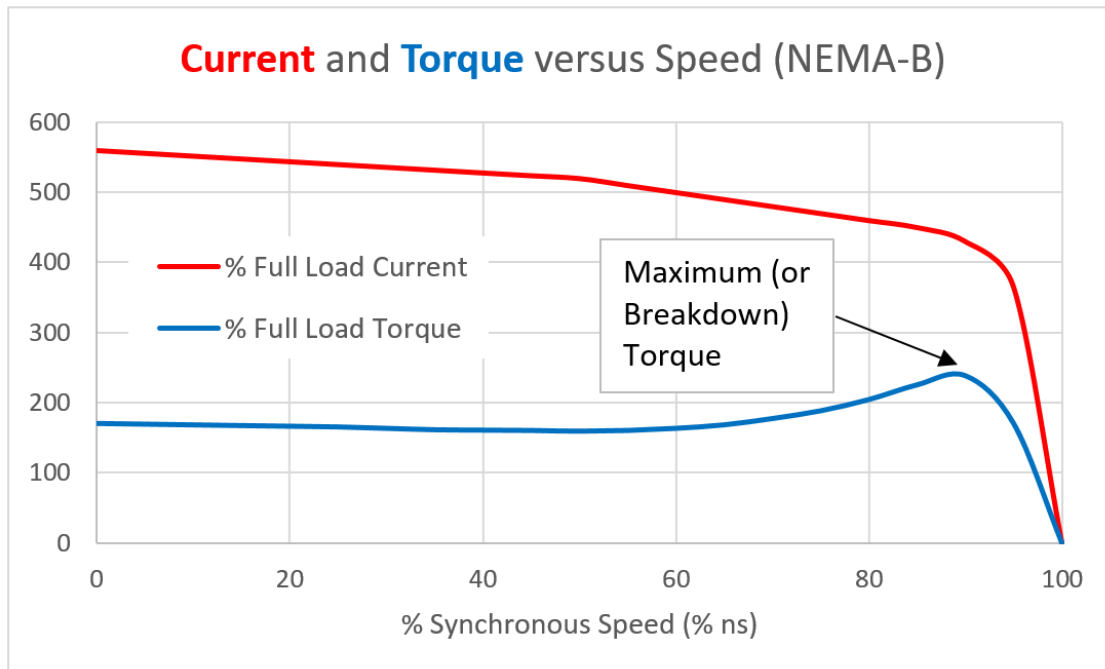

Figure 6.15: % Full Load Current and %FLT versus Speed for a 3-Phase Class B Induction Motor [39].
Since synchronous motors operate at a constant speed (n_s) without any slip they have higher efficiency and can be used for the highest hp applications of any motors. In a synchronous motor, DC current must be sent through the rotor field coils so it stays lined up with the rotating magnetic field. In contrast, 3-phase induction motors are similar to synchronous motors except they do not require DC current to be sent through the rotor coils and therefore lag behind the speed of the rotating magnetic field (see Equation 6.19). Since 3-Phase induction motors are more widely used, they will be the primary focus of this section. They are typically classified by NEMA as Class A, B, C, or D [31, pg. 422]. Class B are the most commonly used type of 3-Phase AC motors [38]. They have high efficiency, power factor, and starting torque and can start most loads without requiring excessive current. Reference [39] shows hundreds of speed torque curves for 3-phase NEMA Class B induction motors. The speed versus torque curves for AC motors are usually displayed differently than DC motors. Since the starting torque must significantly exceed the Full Load Torque, FLT (i.e. the rated load), the torque is used as the y-axis and put in terms of a percentage of the FLT. Before the motor reaches its FLT speed it must achieve its maximum torque (called the **pullout** or **breakdown** torque). Likewise, the current is also frequently plotted as a percentage of its full load current. Figure 6.15 shows the approximate current and torque versus speed curves
- **Low-slip region:** This is the nearly linear region on the right side of Figure 6.15 where normal operation of the motor occurs. The synchronous speed (%ns) is close to 100%, which means the slip is very small. According to reference [38], the maximum slip of a Class B motor is typically 5% in this region.
- **Moderate-slip region:** This is middle section of the curve in Figure 6.15 where torque changes drastically and the maximum torque occurs. This maximum torque is called the breakdown or pullout torque and is typically 200% to 250% of the full rated torque for induction motors [31, pg. 405].
- **High-slip region:** This is far left section of the curve in Figure 6.15 that is nearly linear. This is where the motor goes quickly from rest to high speed. 3-phase NEMA class B induction motors typically have a starting torque (i.e. locked rotor torque) equal to 150% to 170% of full load torque (FLT) [38].
Since the current required to start a 3-phase AC motor is much higher than the current required during normal operation (as shown in Figure 6.15) extreme caution must be taken when starting a large horsepower 3-phase AC motor. For example, Dr. Fagan (my mentor professor who is recognized in the preface of the Davis DC Circuits book [13]) tells the story that many years ago the University of Oklahoma Norman campus was once completely blacked out due to the improper starting of a large 3-Phase motor. To avoid stressing the power system or damaging the motor, special starting circuits are often used for 3-phase AC induction motors [31, pg. 432]. While it is risky, 3-phase induction motors are capable of self-starting. However, 3-phase synchronous AC motors always require special starting features or procedures to get them to the synchronous speed. The three most common methods of starting a 3-phase synchronous motor (described in section 6.3 of reference [31]) are: 1) Temporarily reducing the speed of the stator field, 2) Using an external prime mover, or 3) Using Amortisseur
Single-phase induction motors are commonly used for smaller hp applications that require AC power. They are used in similar applications as Universal (i.e. Series Wound DC motors). As compared to a universal motor of similar size, single phase induction motors have higher rated torque and are much better in speed regulation. Single phase induction motors don't require brushes, like Universal motors, so they are quieter and need less maintenance. However, the universal motor has higher rpm and much better starting torque. Since single phase AC motors don't have enough starting torque to get to the operating speed-torque condition they require a starting mechanism. The lack of starting torque occurs because a rotating magnetic field is not created in the stator since only one AC signal is used instead of three. However, once the motor is started and brought near its rated condition it will operate with a speed-torque characteristic that is similar to a 3-phase induction motor in Figure 6.15 (except at much lower horsepower). In order to produce enough torque when starting the motor, an additional winding is often used that is only active during startup. The most common types of single phase induction motors are: